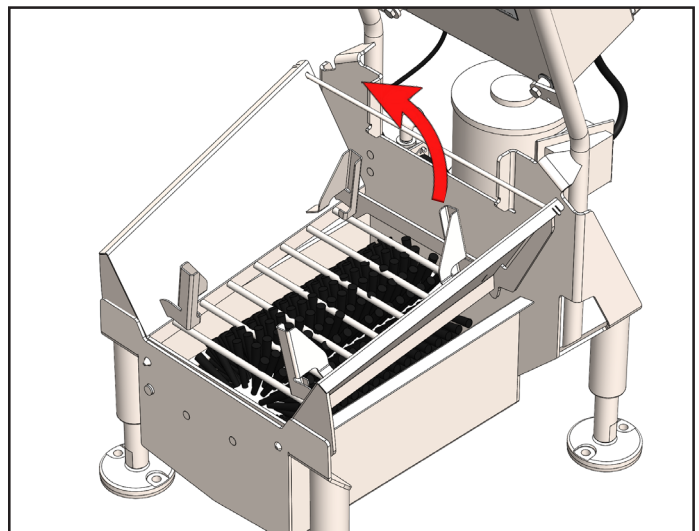

Fig. 8.2: Removing grate
3. Remove the grate by pulling the grab bar out and away from its alignment notches [Figure 8.2].